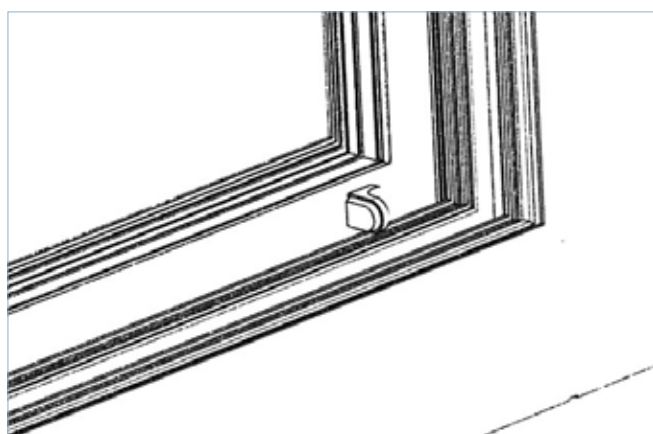

FIG 23
6. Open the locking sash to the fully open position (being careful to allow space for the operators fingers between the handle and interlock). Locate the door stops on the bottom and top of the sash and fix into place using the supplied screws (FIG 23)